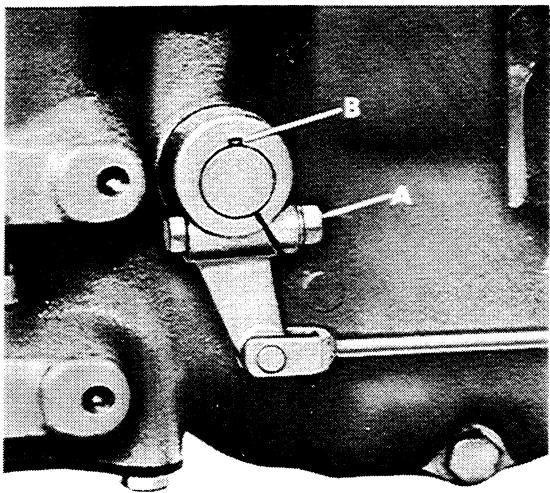
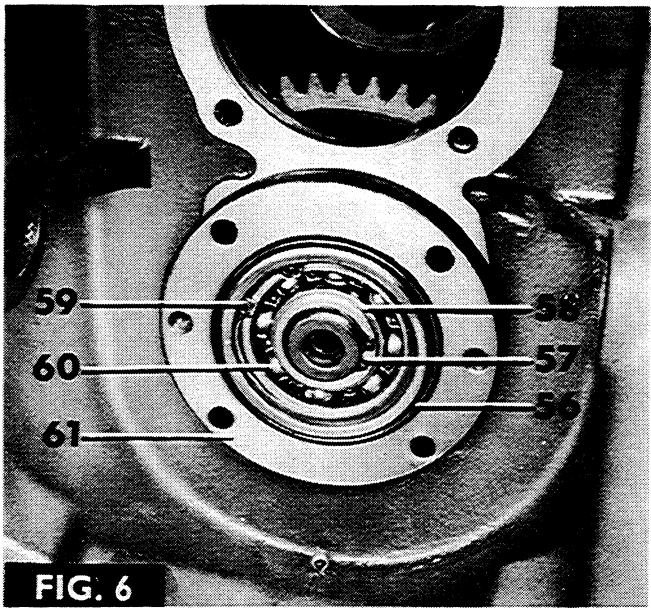

FIG. 5
FIG. 6
2. Fig 5. Remove the bolt, nut and lockwasher (A) securing the left brake cross shaft lever. Remove the lever and key (B) from the shaft.
4. Remove the four bolts (53) securing the cover plate (55).
**NOTE – IF THE 'O' RING (56) IS CAUSING LEAKAGE, PROCEED NO FURTHER.**
5. Figure 6. Remove the circlip (57) and the thrust washer (58).
6. Screw two  $\frac{3}{8}$  UNC x 75 mm (3 in) bolts into the tapped holes in the bearing housing (61). Progressively and evenly tighten the bolts until the housing is extracted.
7. Remove the 'O' ring (56) from the bearing housing.
8. If the bearing (60) needs servicing, remove the circlip (59) and press out the bearing (60).
4. Figure 6. Secure the p.t.o. driveshaft with the thrust washer (58) and the circlip (57).
5. Using a new 'O' ring (56) refit the front cover plate (55).
**NOTE – WHEN REFITTING THE COVER PLATE AND THE BOLTS (53) USE SEALING COMPOUND 'HYLOMAR COMPOUND SQ 32M' TO SEAL THE PLATE AND BOLT THREADS.**
7. Figure 5. Refit the lever and key to the brake cross shaft, then re-tighten the nut and bolt.
13. Remove the four bolts (53) securing the cover plate (55).
14. Figure 6. Remove the circlip (57) and the thrust washer (58).
15. Screw two  $\frac{3}{8}$  UNC x 75 mm (3 in) bolts into the tapped holes in the bearing housing (61). Progressively and evenly tighten the bolts until the housing is extracted.
16. Remove the 'O' ring (56) from the bearing housing then remove the circlip (59) and press out the bearing (60).